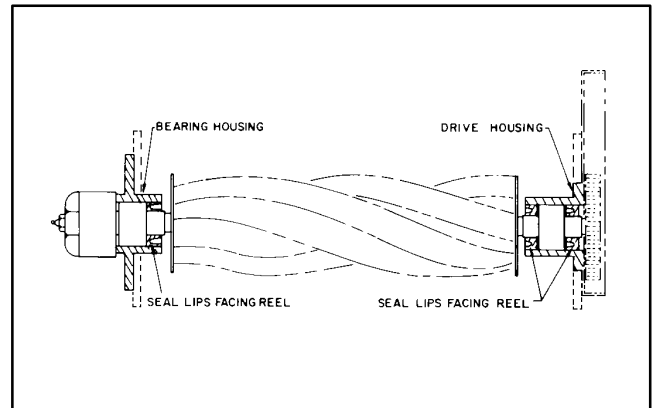

Figure 23
2. Assemble the outer seal (lip facing in to retain grease) into the drive housing using Loctite 242 retaining compound on the outer diameter. Apply a light coat of oil to the seal lips and insert the bearing assembly through the seal from the opposite side (Fig. 23).
3. Apply a light coating of oil to the inner seal lips and install (lip facing away from the bearing and toward the reel) in the housing. Install the retaining ring to secure the assembly in the housing (Fig. 23).
4. Apply a light coat of oil to the seal lips of the seal for the bearing housing and install (lip facing away from the bearing) over the bearing assembly (Fig. 23).